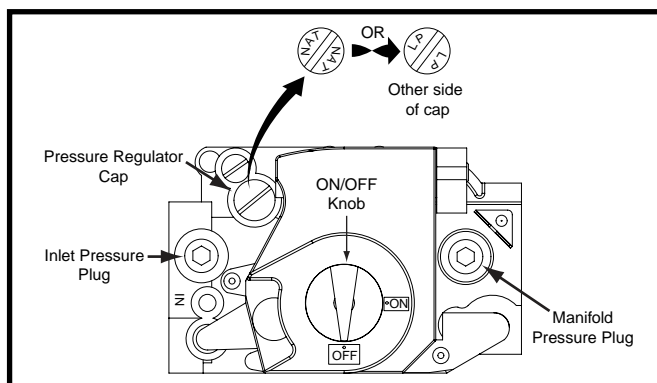

Figure 36. Gas Valve - Top View
This furnace can be converted from factory-equipped natural gas to Liquid Propane gas. Conversion of this valve requires replacement of the burner orifices on the manifold assembly and flipping the regulator cap to the side marked LP. See Figure 36 below. The orifices required for conversion are supplied with the furnace.
- To prevent cross threading, screw the orifices (7) into the gas manifold assembly (5) by hand until snug, then tighten with a wrench.
12. Install the appropriate LP/Propane orifices (7) into the gas manifold assembly (5).
13. Remove the pressure regulator cap (Figure 36) from the gas valve.
1. Remove the inlet pressure plug (Figure 36, page 28) from the INLET side of the gas valve with a 3/16 Allen wrench.
1. Remove the manifold pressure plug (Figure 36, page 28) from the outlet side of the gas valve with a 3/16 Allen wrench.
6. If the manifold pressure is not set to the pressure specified in Table 13, remove the pressure regulator cap (Figure 36) from the gas valve. Slowly turn the adjusting screw underneath the cap with a small screwdriver until the appropriate manifold pressure is obtained. **NOTE:** Turning the screw clockwise increases the pressure, turning the screw counter-clockwise decreases the pressure.
7. After the manifold pressure is properly set, replace the cap so that the letters facing up represent the type of gas being used for the furnace. See Figure 36.
4. Turn the gas valve ON/OFF knob (Figure 36) to the ON position.